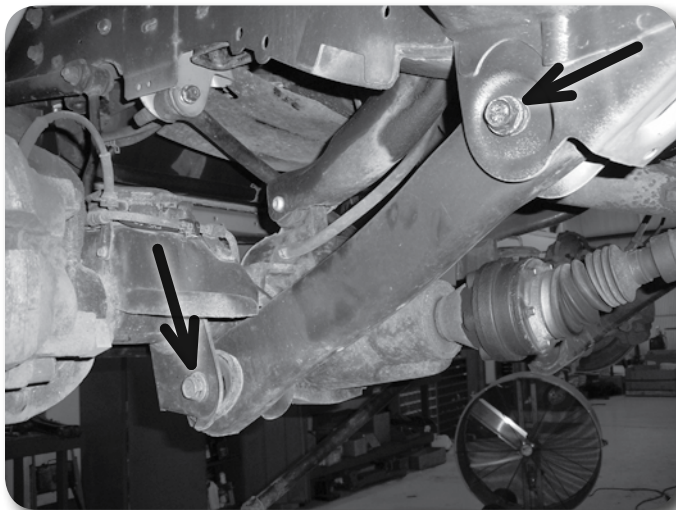

Figure 6
12. Loosen, but do not remove the 4 lower control arm bolts. **Figure 6**